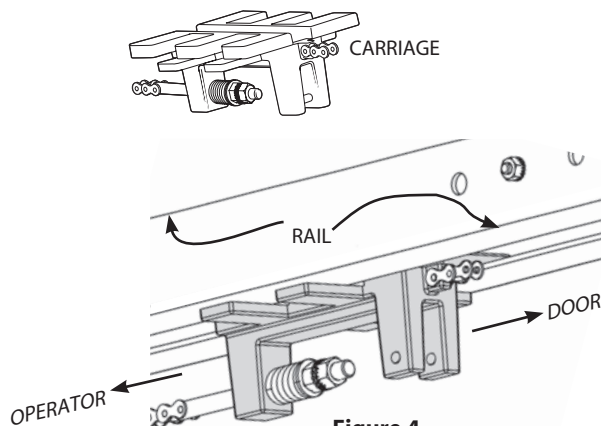

Figure 4
- 3) Insert the carriage into the tracks as shown in **Fig. 4**.